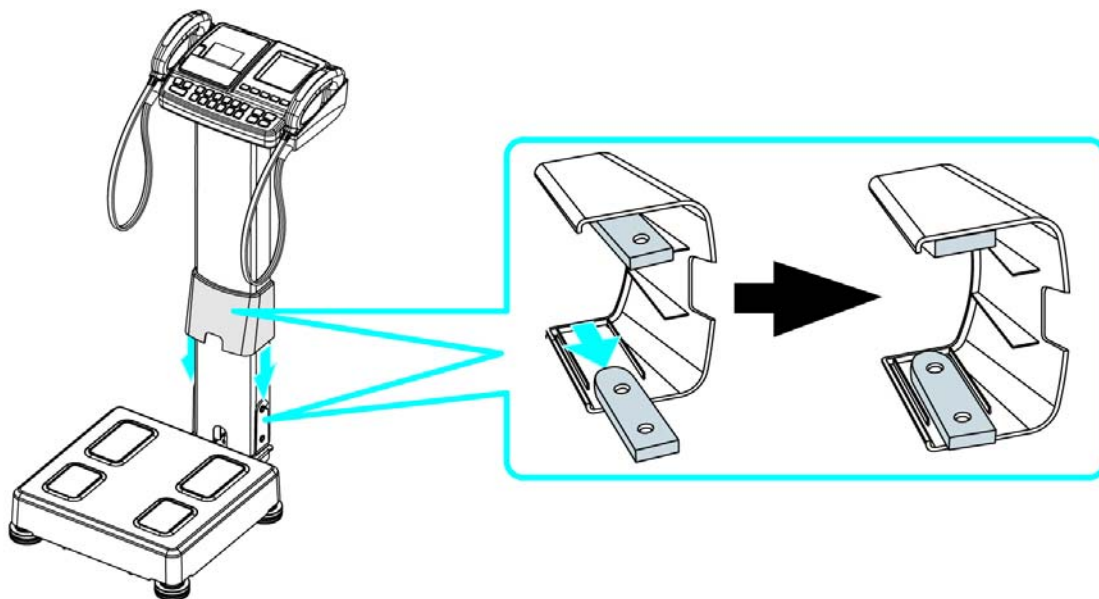

Figure 6. Column Cover Assembly
1. Insert the column cover as shown in Figure 6.